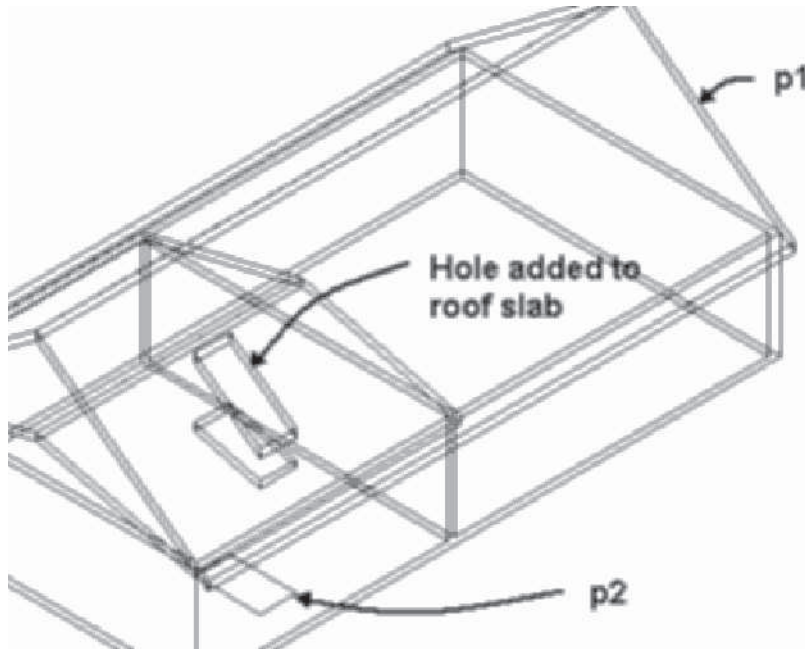

FIGURE 8.13 Hole added to slab
11. Select the roof slab at **p1** shown in Figure 8.13 and choose **Add** from Hole flyout menu of the Modify panel in the Slab contextual tab. Create a hole in the roof slab by selecting the polyline at **p2** as shown in Figure 8.13. Retain the polyline geometry. Press Esc to clear object selection.